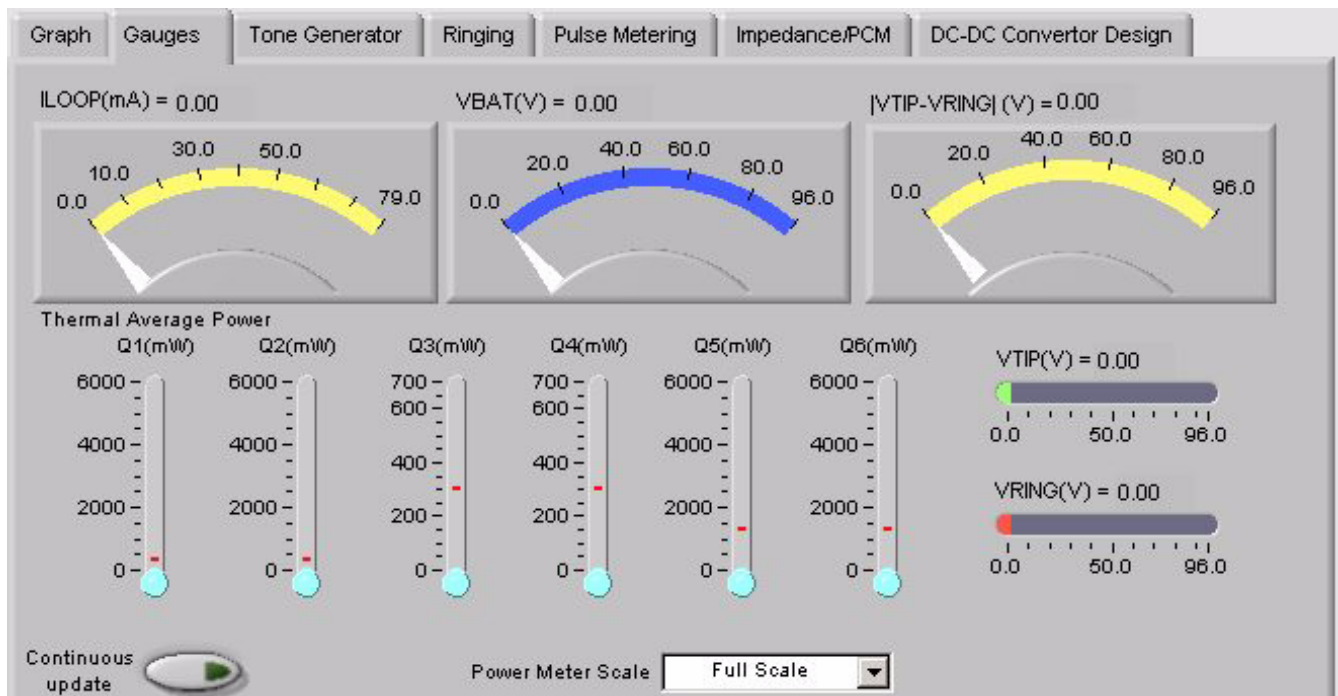

Figure 6. Gauges Window
The *Gauges* window displays several real-time values of the device. (See Figure 6.) To activate the gauges press the *Continuous Update* button. The power meters display the measured value in blue and the threshold value with a red line. *Scale to Threshold* changes the maximum of these meters to be the threshold value. *Full Scale* sets the maximum of these meters to be 6 W for Q1, Q2, Q5, and Q6 and 700 mW for Q3 and Q4. The scales for all of the gauges can be changed using the method described for changing the graph's scale.
- Figure 6 on page 4 updated.